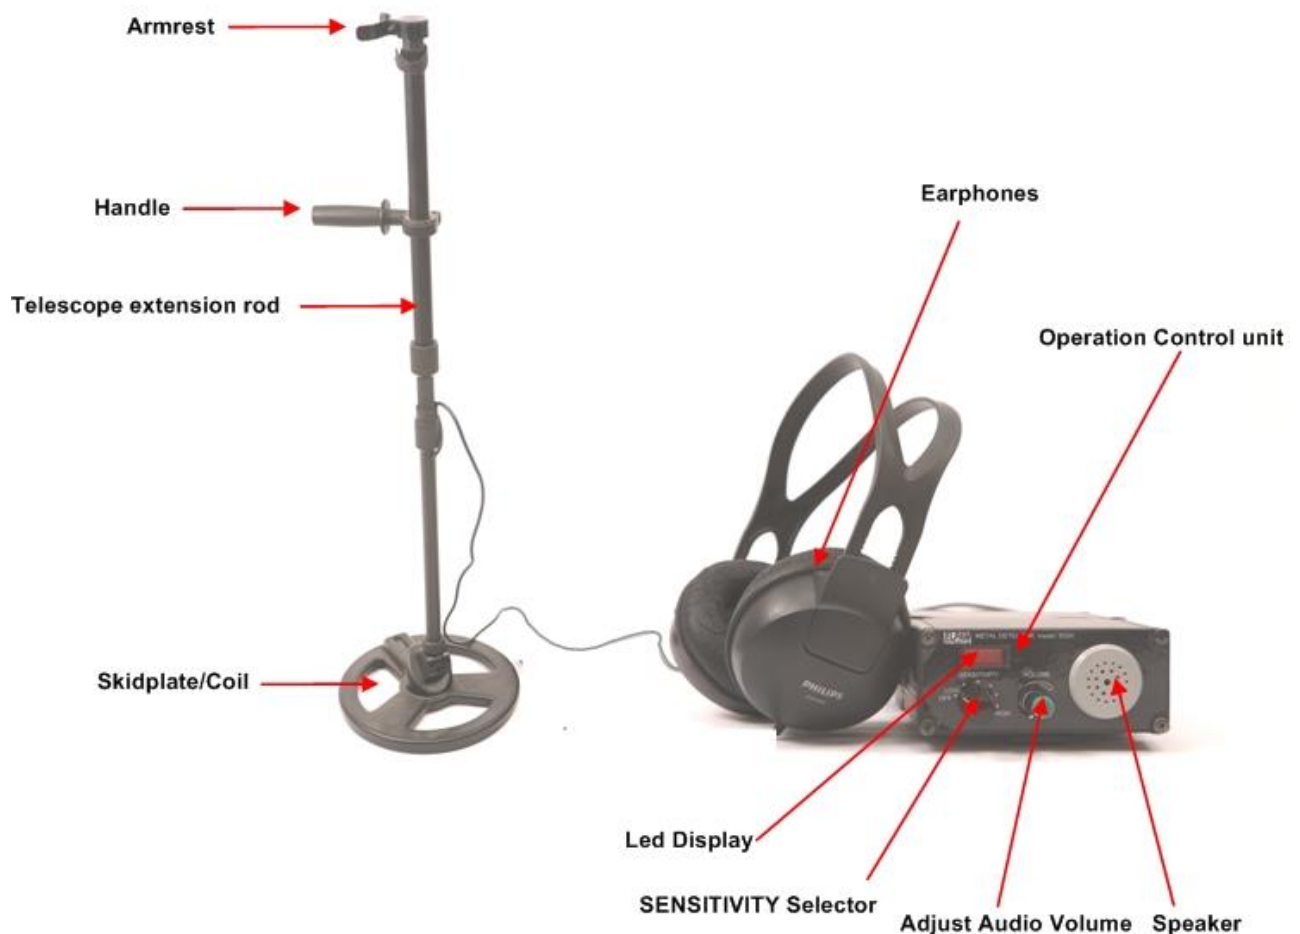

Figure 3: 605H - Main Components
2.2 605H Main Components. Figure 3 identifies the main components of the 605H which comprise: